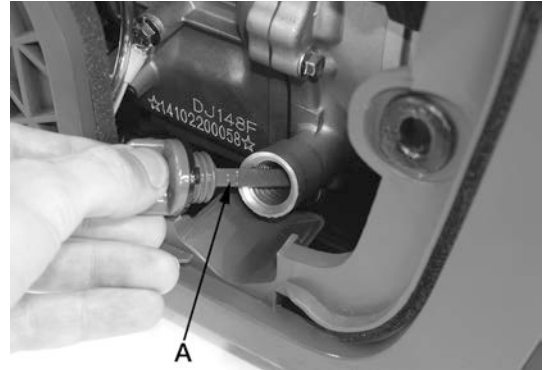

Figure 1A
- 2) Turn the oil gauge dipstick (A) Fig.1A counterclockwise, remove it and clean it with a clean cloth.